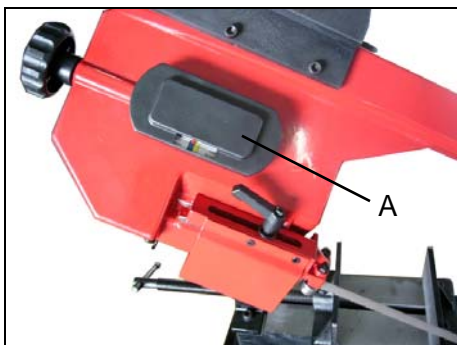

Fig.27
6. Open the tension slider cover (A) in Fig.27.